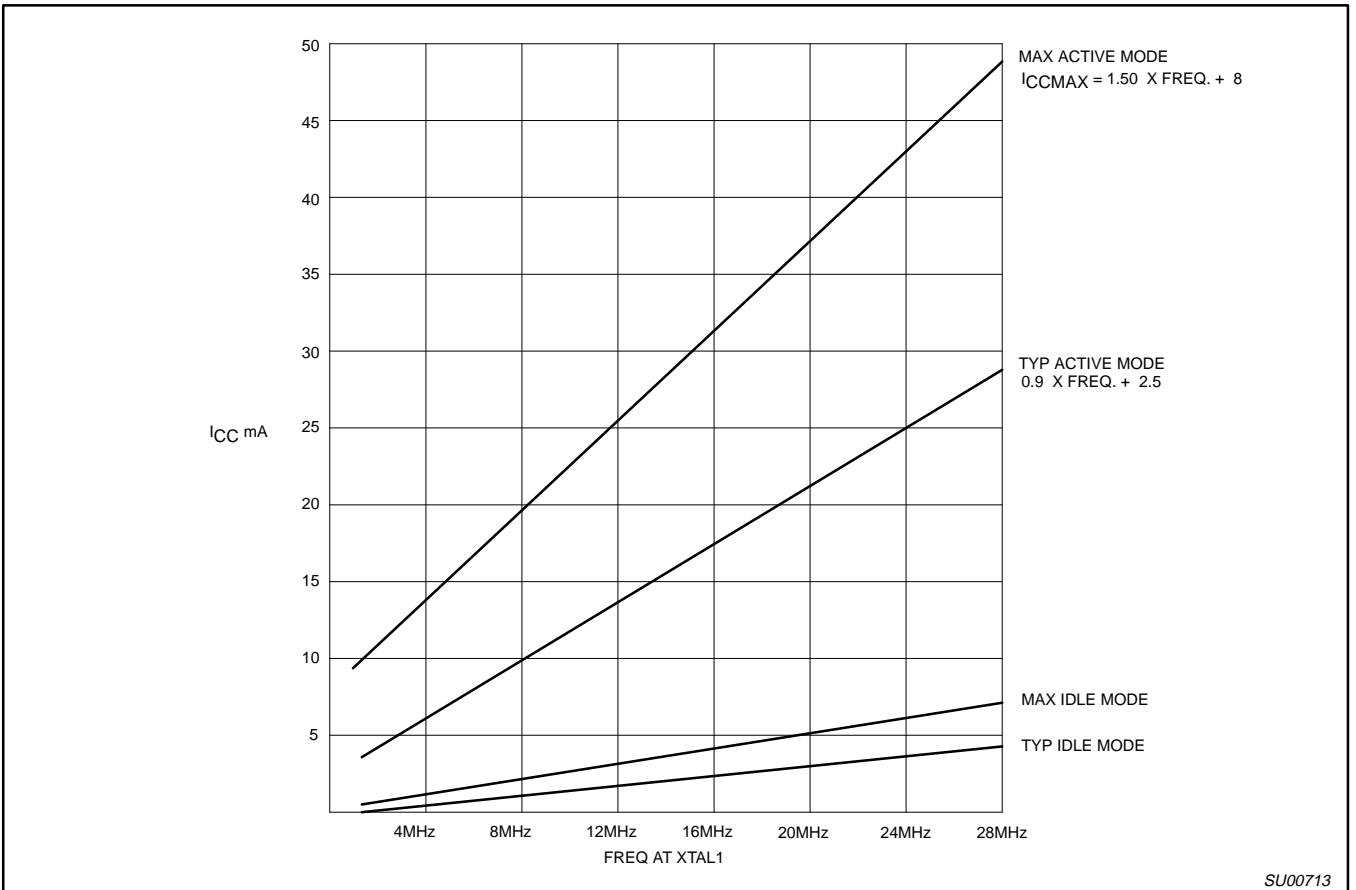

Figure 8. I_{CC} vs. FREQ Valid only within frequency specifications of the device under test
- I_{CCMAX} at other frequencies is given by: Active mode: $I_{CCMAX} = 1.50 \times \text{FREQ} + 8$; Idle mode: $I_{CCMAX} = 0.14 \times \text{FREQ} + 2.31$, where FREQ is the external oscillator frequency in MHz. I_{CCMAX} is given in mA. See Figure 8.